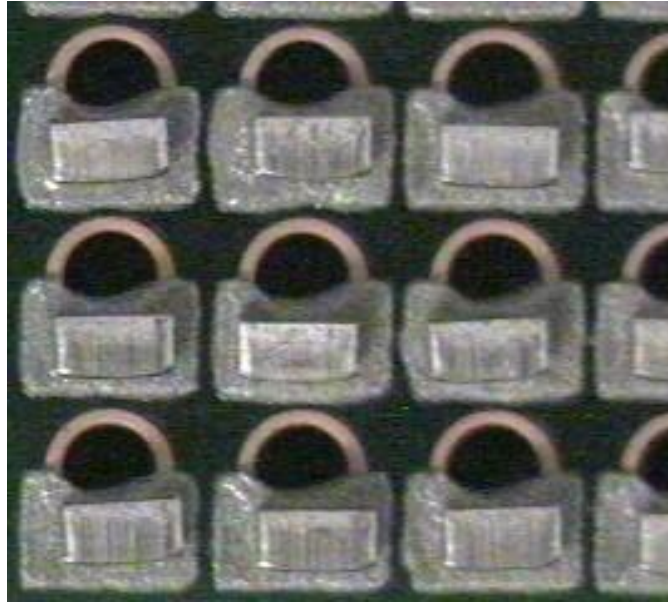

Figure 6. Solder paste is printed and the preform is placed on the paste with a component placement machine.
Step 2: Preforms are placed in the solder paste using automated placement equipment. The preform shape may be a washer or a 0603 segment as depicted in Figure 6.
The process used in Figure 6 was able to achieve excellent results with the solder preform + solder paste solution. The benefits were: